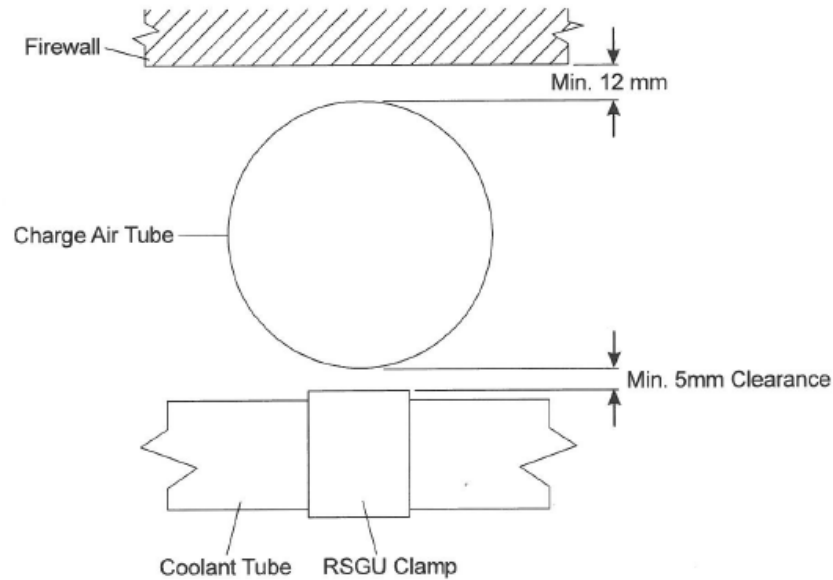

Figure 1: Clearance between charge air tube to firewall and coolant tube
- Make sure that the charge air tube has at **least** 12 mm clearance to the firewall and at **least** 5 mm clearance to the coolant tube aft of the engine (refer to Figure 1 and 2 below).